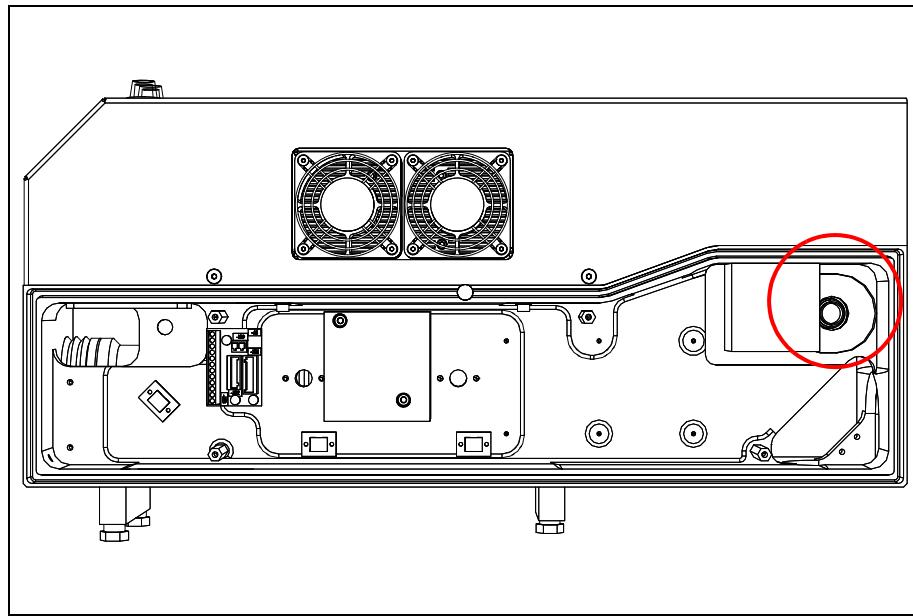

Figure 3.9 Deflecting unit – 1
2. Remove the connecting plug (-X25) of the shutter module (see figure 3.9) on the fan side of the laser head.